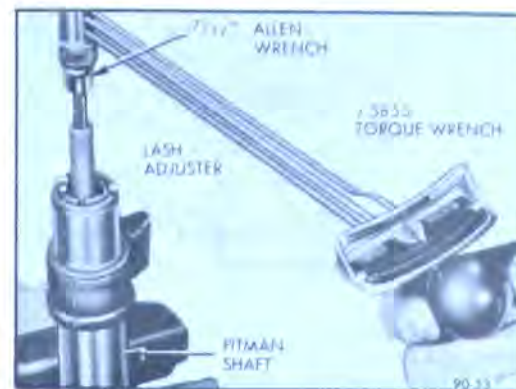

Figure 90-48 Checking Torque on Lash Adjuster
3. Check the torque on the lash adjuster. See Figure 90-48. If torque exceeds 15